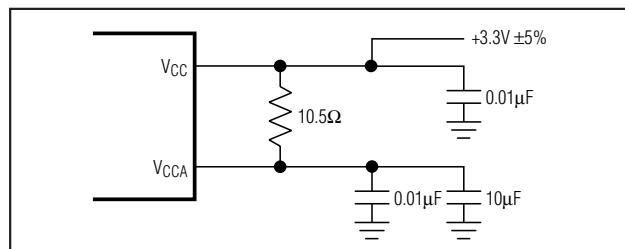

Figure 1. Analog Supply Filtering
**Note 1:** A series resistor of up to  $10.5\Omega$  is allowed between  $V_{CC}$  and  $V_{CCA}$  for filtering supply noise when system power-supply tolerance is  $V_{CC} = 3.3V \pm 5\%$ . See Figure 1.
**Note 6:** Measured using setup shown in Figure 1.
The MAX3625B is a mixed analog/digital IC. The PLL contains analog circuitry susceptible to random noise. In addition to excellent on-chip power-supply noise rejection, the MAX3625B provides a separate power-supply pin, VCCA, for the VCO circuitry. Figure 1 illustrates the recommended power-supply filter network for VCCA. The purpose of this design technique is to ensure a clean power supply to the VCO circuitry and to improve the overall immunity to power-supply noise. This network requires that the power supply is  $+3.3V \pm 5\%$ . Decoupling capacitors should be used on all supply pins for best performance.